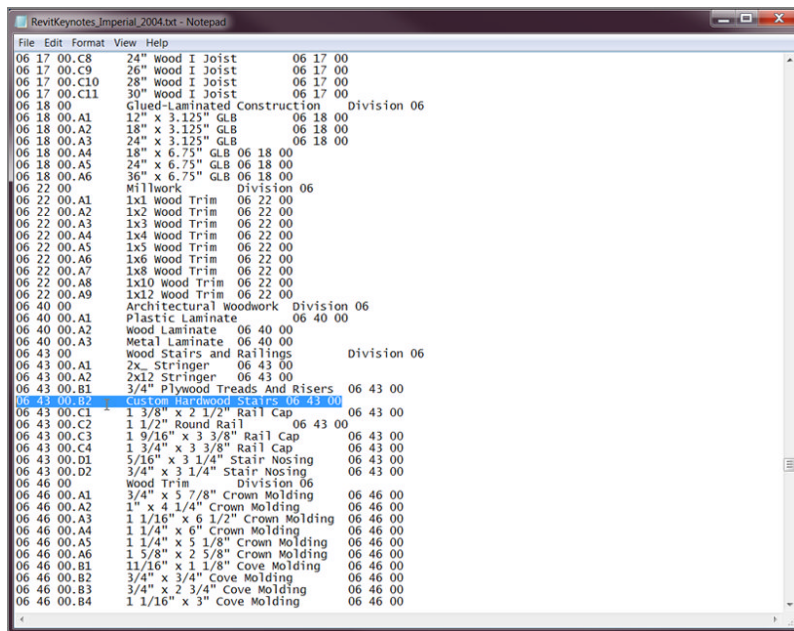

FIGURE 11.88: Adding the row 06 43 00.B2 Custom Hardwood Stairs 06 43 00
4. Click at the end of the note, press Enter to start a new line, and add the row `06 43 00.B2 Custom Hardwood Stairs 06 43 00 (06430.B2 Custom Hardwood Stairs 06430)` (see Figure 11.88).